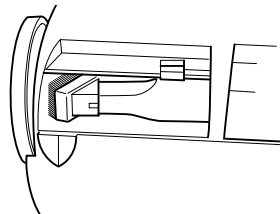
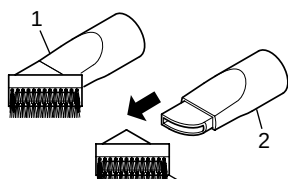

Fig. 4
Fig. 5
The combi-nozzle (Fig. 5) can be stored in the accessory mounts on the back of the appliance (Fig. 4). You can use the combi-nozzle as a crevice nozzle or as a furniture brush.
■ Furniture brush (Fig. 5/1)
■ Crevice nozzle (Fig. 5/2)
Use this to vacuum dust from hard to reach places. Remove the furniture brush attachment (Fig. 5/3) to use the combi-nozzle as a crevice brush.